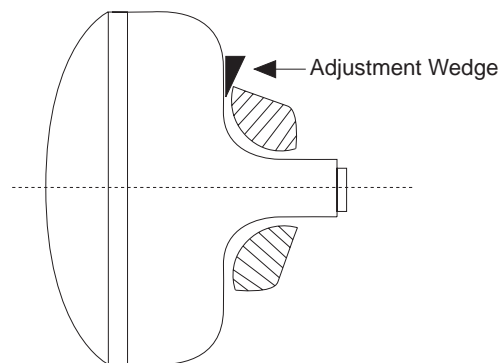

FIGURE 1-5-1
- (1) Insert an adjustment wedge (temporary) between the top of DY opening and CPT funnel as shown in Figure 1-5-1. By inserting the wedge gradually, match the red and blue vertical lines at the top and bottom of the screen and also match the red and blue horizontal lines of both sides of the screen as shown in Fig. 1-5-2(a).